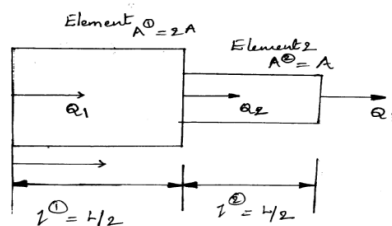

Fig.5
8. Find the natural frequencies of longitudinal vibration of the unconstrained stepped bar shown in Fig.5.